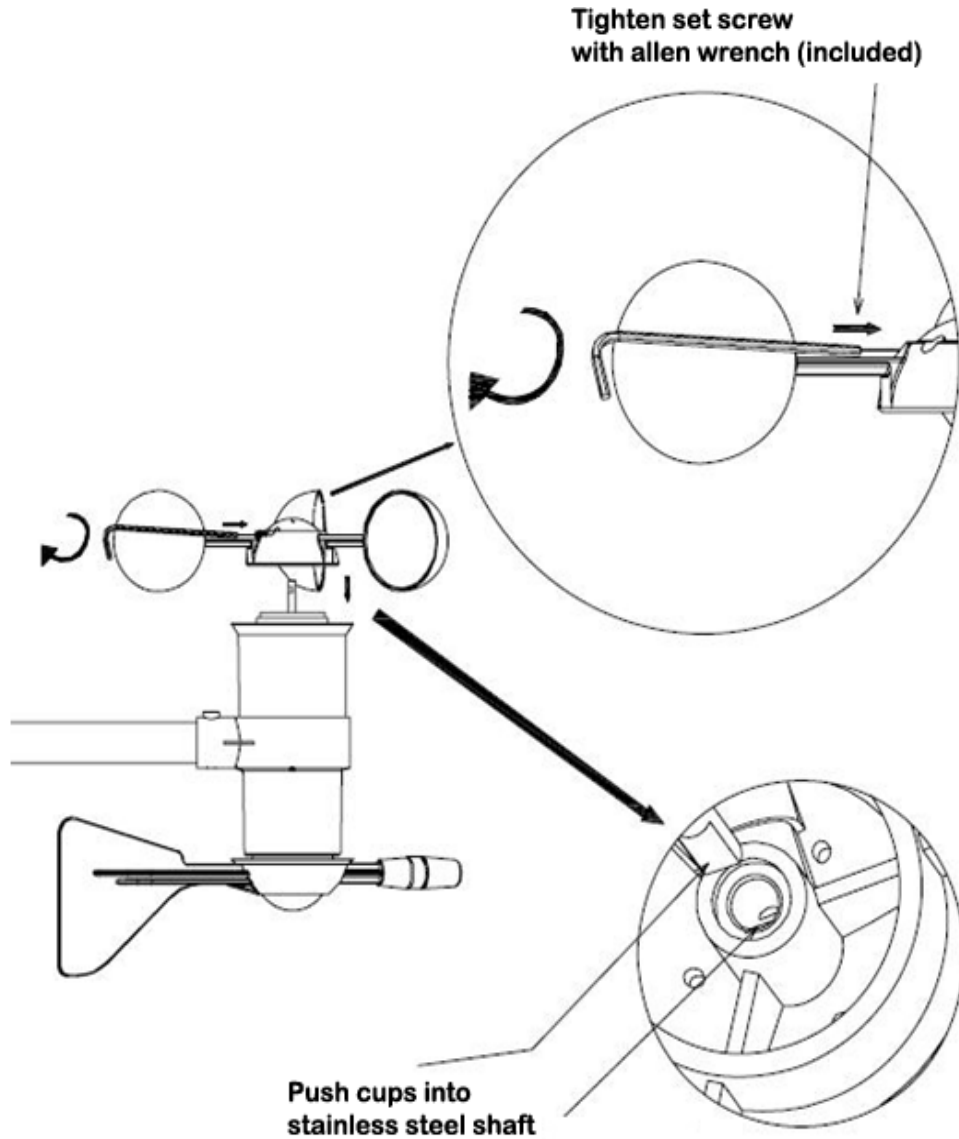

Figure 6
2. **Attach the wind cups to the anemometer assembly.** Push the wind cups into the anemometer shaft, as shown in Figure 6.
Tighten the set screw with the Allen Wrench (included), as shown in Figure 6. Make sure the wind cups spin freely.